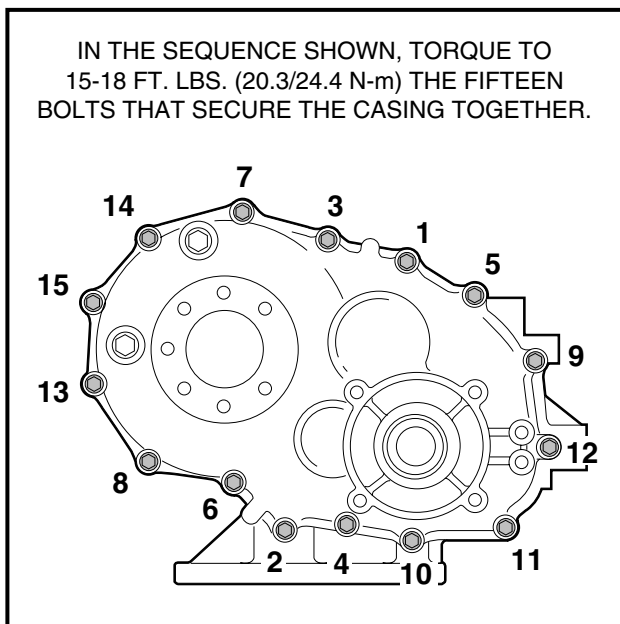

FIGURE 10-82
10. Install and thread to finger tight the fifteen bolts (27) (Figure 10-36, Page 48) that secure the left and right sides of the casing together. Then, in sequence shown, tighten the bolts to 15-18 ft.lbs. (20.3/24.4 N-m) (See Figure 10-82, Page 66).